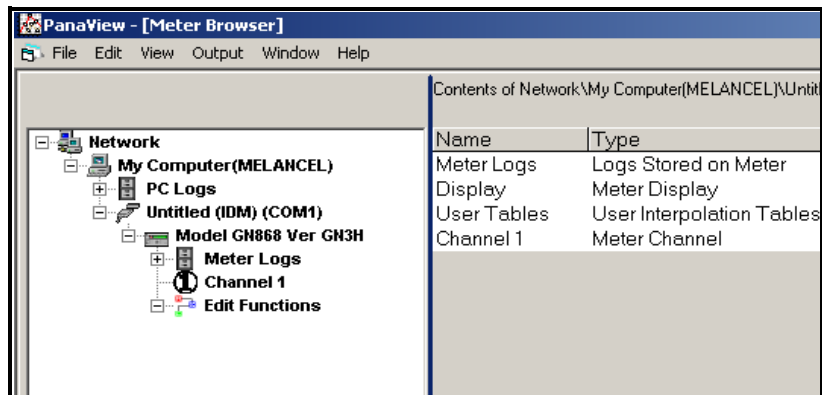

Figure 18: New Meter Browser with Meter Branch
3. Then expand the meter tree as shown in Figure 18 below.